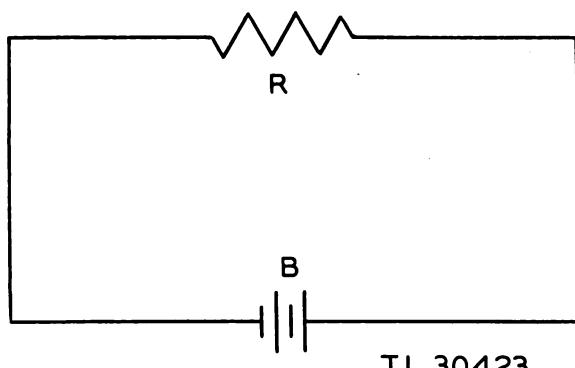

Figure 54. Resistance measurements functional schematic.
*a. Series Circuits.* (1) **GENERAL.** A series circuit is one in which the current has but one path. Figure 54 shows a battery connected across a resistor in a simple series circuit. It is not necessary that R be a resistor. It may be a transformer winding, choke coil, or some other winding which possesses a value of resistance.